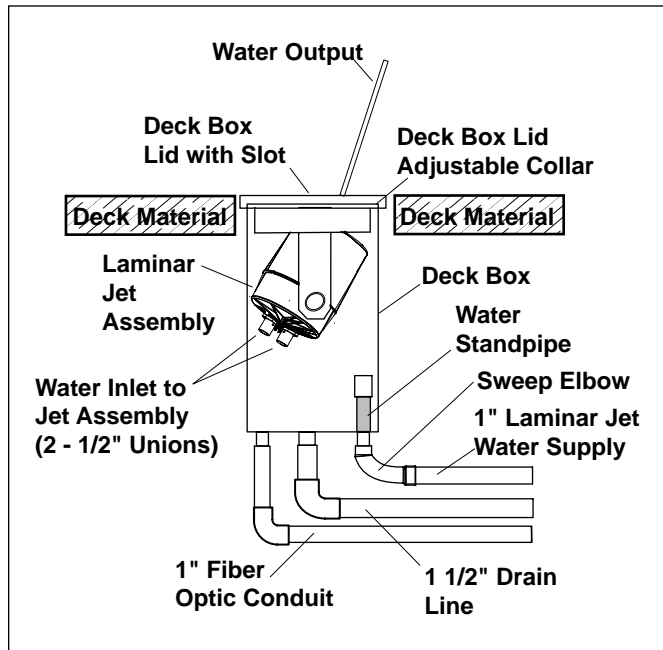
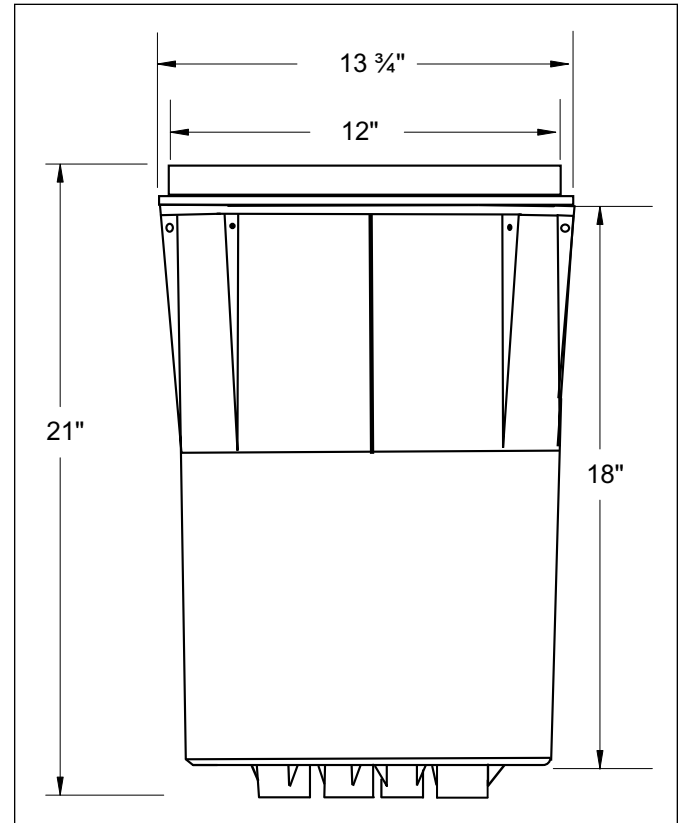

Figure 3. Laminar Jet Deck Box Schematic
Figure 4. Deck Box Dimensions
NOTE Prior to installing the Jandy Laminar Jet Deck Box, locate the jet opening (slot) in the Deck Box cover. Make sure that this opening is pointing towards the desired target location in the pool. Use the water stand pipe as a reference (see Figure 3). Determining the orientation of the Deck Box will also establish where to place the plumbing and fiber optic conduit.
2. Lift up the Deck Box lid and adjustable deck lid collar from the Deck Box (see Figure 4). Notice that the Laminar Jet assembly is connected to the Deck Box lid as one unit. Disconnect the two (2) $\frac{1}{2}$ " unions located on the bottom of the Laminar Jet assembly (see Figure 3). Set the lid/jet assembly aside.